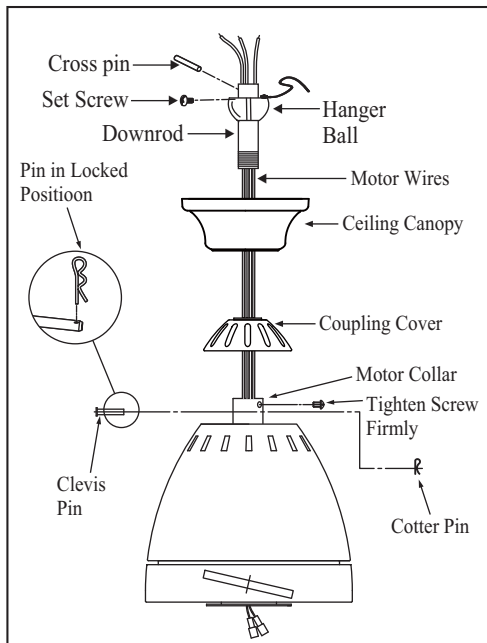

Figure 8
6. Carefully feed the motor wires up through the downrod. Thread the downrod into the collar. Align the holes and replace the clevis pin and cotter pin. Tighten the two collar setscrews. (Figure 8)
7. Slip coupling cover, canopy ring, and canopy onto the downrod. Carefully reinstall the hanger ball onto the downrod, being sure that the cross pin is in the correct position, the setscrew is tightened and wires are not twisted. (Figure 8)